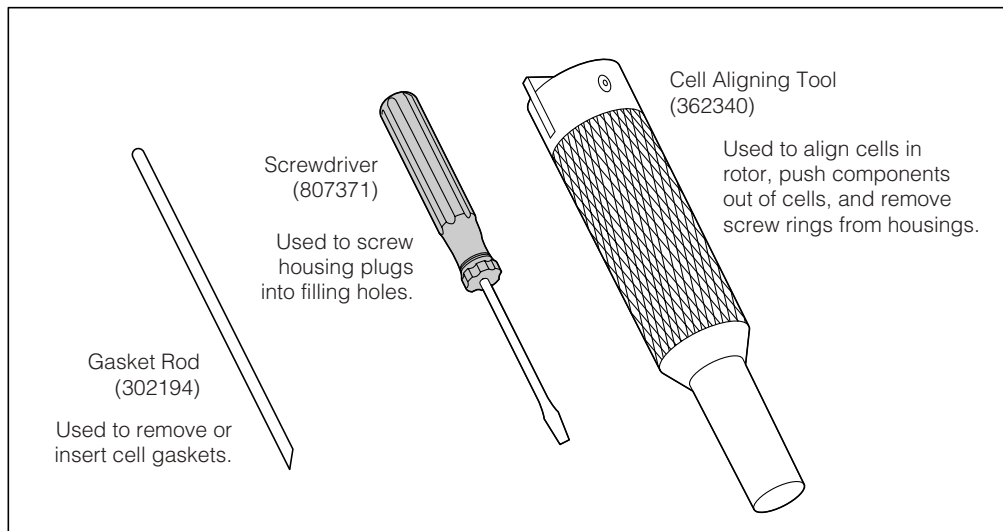

Figure 2-4. Required Tools for Cell Assembly
- d. Turn the cell housing upright and, using moderate pressure, carefully push the components to the bottom with the cell-aligning tool (see Figure 2-4).